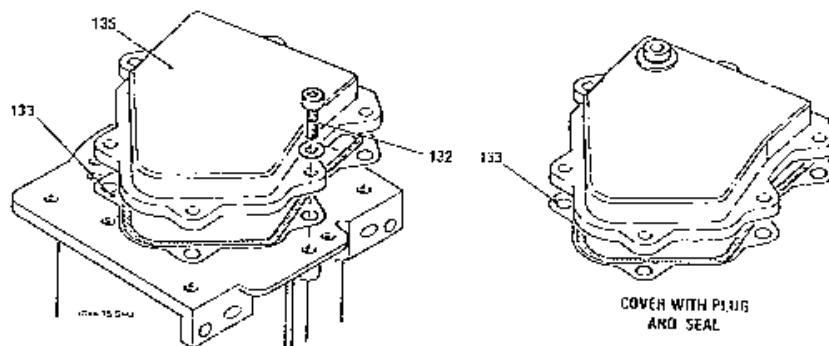

Fig. 3.12 Thermostat Cover
1. Remove the screws (132) and washers (if fitted). Remove the thermostat cover (135) and dispose of the gasket. If the thermostat cover is damaged, dispose of the cover with the plug and seal (if fitted) and issue the vaporizer with a new type cover.
2. If the cover is the type which seats on to a gasket as shown in Fig. 3.12, dispose of the cover (135) and gasket (133).
4. To enable the sump assembly to be cleaned without touching the thermostat components, temporarily refit the thermostat cover to the sump base using two screws (132) fitted diametrically opposite to each other. Ensure that the plug and seal remain in place.